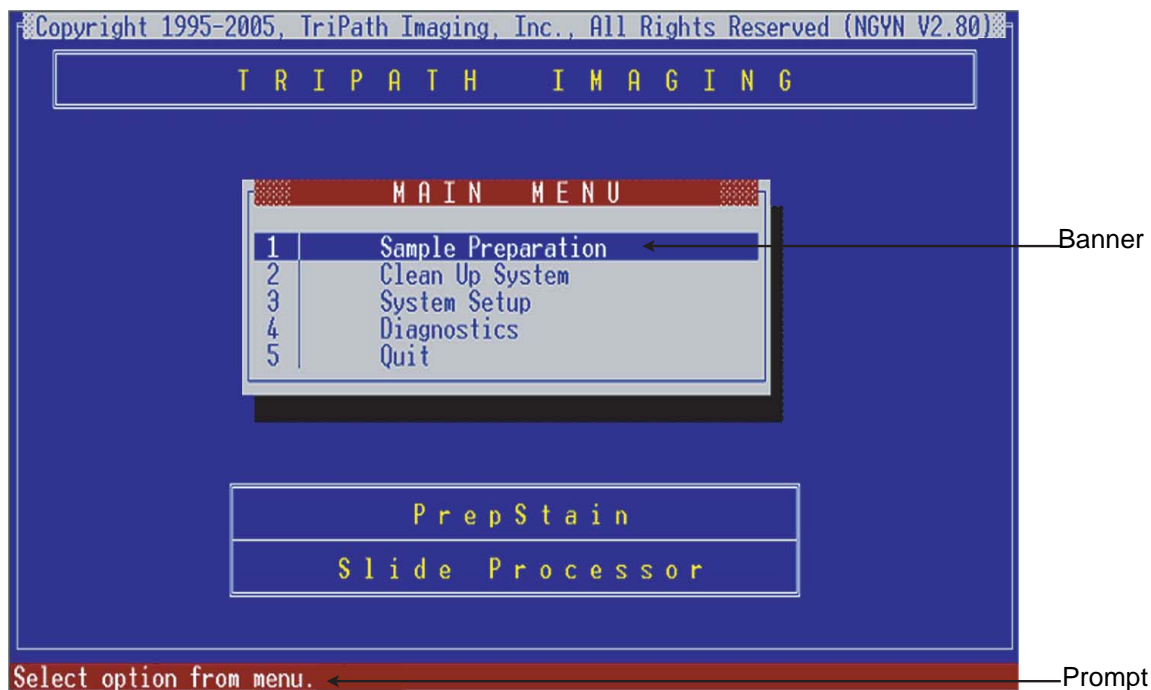

Figure 3-2 Non-GYN Main Menu
When you choose the first option in the Non-GYN Version menu, the Non-GYN Main Menu is displayed. This screen is illustrated in *Figure 3-2*.
- If the workstation is running the GYN application, select **Quit** to display the DOS prompt, type in **NONGYN**, and then press **Enter**. The Non-GYN Version Check menu (*Figure 3-2*) is displayed.
2. Select **Run Version 2.80** from the menu, and then press **Enter**. This brings up the Non-GYN Version 2.80 Main Menu. The main menu (*Figure 3-2*) provides access to all functions of the program.